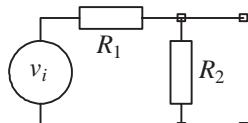

Figure 1
- 1 Work out in symbolic terms the Thevenin equivalent circuit of figure 1.